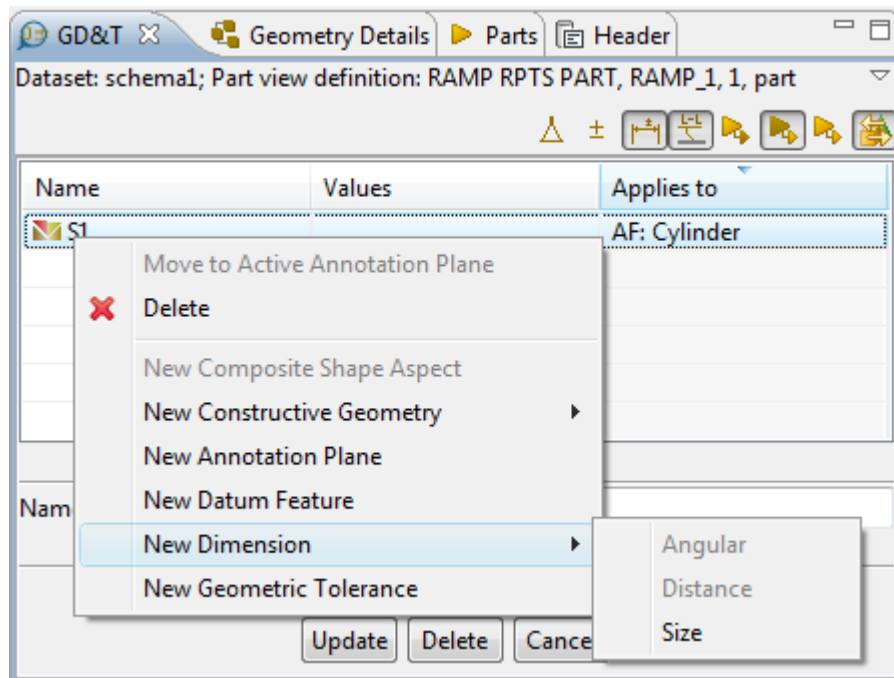

Figure 1. Selected shape aspect of type Circle, context sensitive menu New Dimension -> Angular/Distance/Size
- Right click and select **New Dimension -> Angular/Distance/Size** menu item in the appeared context sensitive menu (see Figure 1). **Note.** In case some dimensioning for the selected shape aspect is not available, the particular sub menu item is disabled.